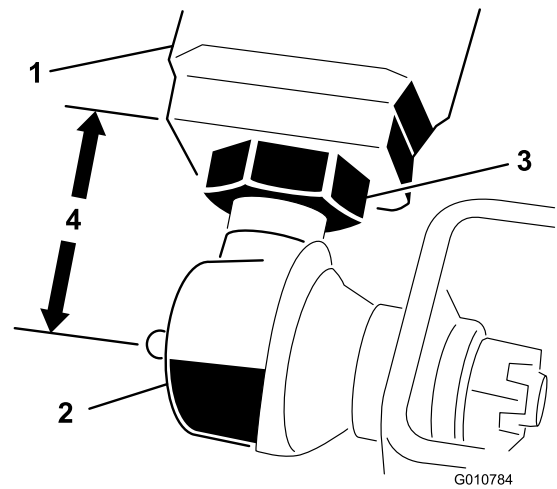

Figure 5
2. Measure the distance from the end of each lift arm to the center of the ball joint (grease fitting). The distance should be 2-1/4 inches (57 mm) (Figure 5).